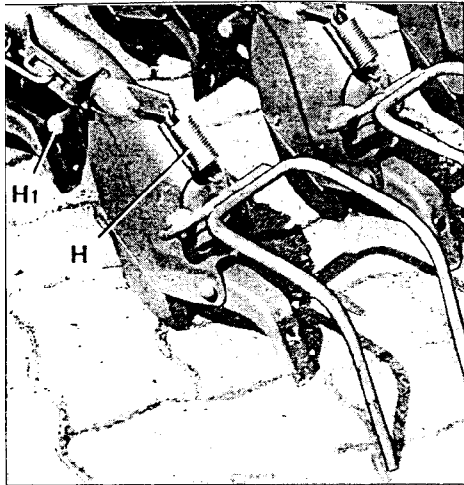

Fig. 23
### **Exchange of coulters** (Fig. 23, 24 & 27)
- Universal coulters (Fig. 23)
### **Option of rear harrows** (Fig. 23, 25, 26, 28 & 30)
#### **Coulter harrow** (Fig.23):
Under normal soil conditions the 'Coulter harrow' (Fig. 23) is recommended to be fitted on the long tubes only.